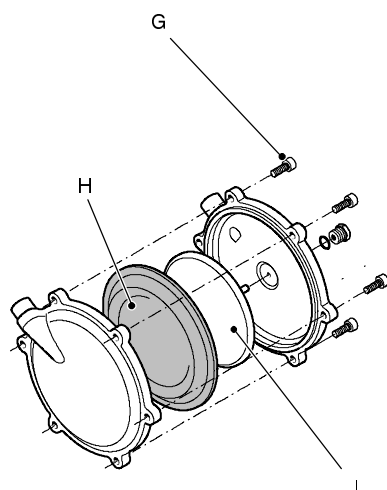

fig. 28
- 4 Unscrew the six screws *G*, open the hydraulic actuator and remove the membrane *H*. (fig. 28).
Assembling the part, ensure to place the concave side of the membrane towards the actuator plate *I* (fig. 28).